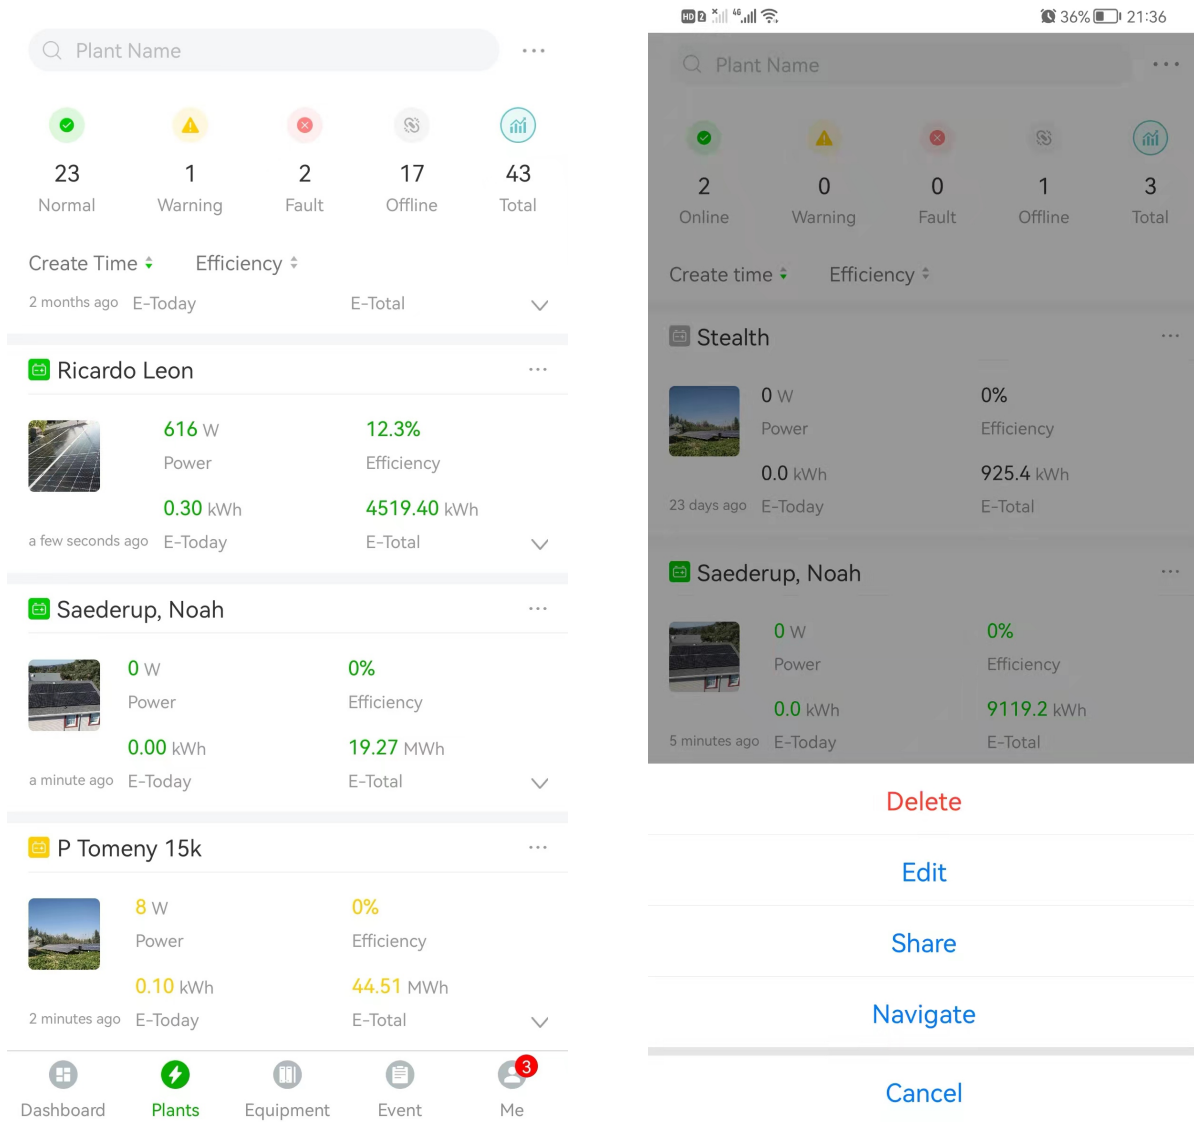

Figure 6-3 Remove plant
1. Click "Plants" at the bottom, click "..." at the upper right corner of the plant, and select Delete, as shown in Figure 6-3.